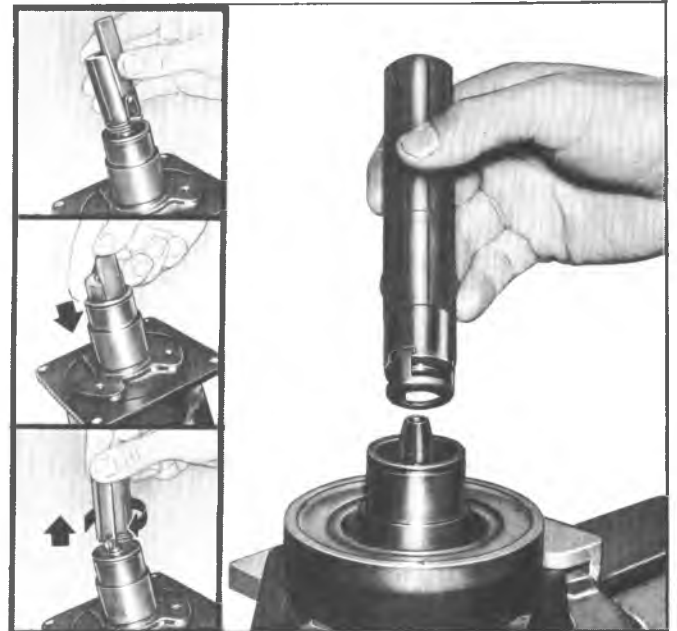

Fig. 13-Replacing Seal and "O" Ring
1. Coat the new shaft seal seat "O" ring with clean Frigidaire 525 viscosity refrigeration oil (or equivalent) and install in the compressor neck groove using Tool J-21508 (fig. 13).
2. Coat the "O" ring and seal face of the new shaft seal assembly with clean refrigeration oil and carefully engage the seal assembly onto the locking tangs of Tool J-9392 (fig. 13). Place shaft Seal Protector J-22974 over the end of the shaft and slide the seal down the shaft, turning the tool clockwise and applying light pressure until the seal assembly engages the flats on the shaft and is seated in place. Rotate the tool counter-clockwise